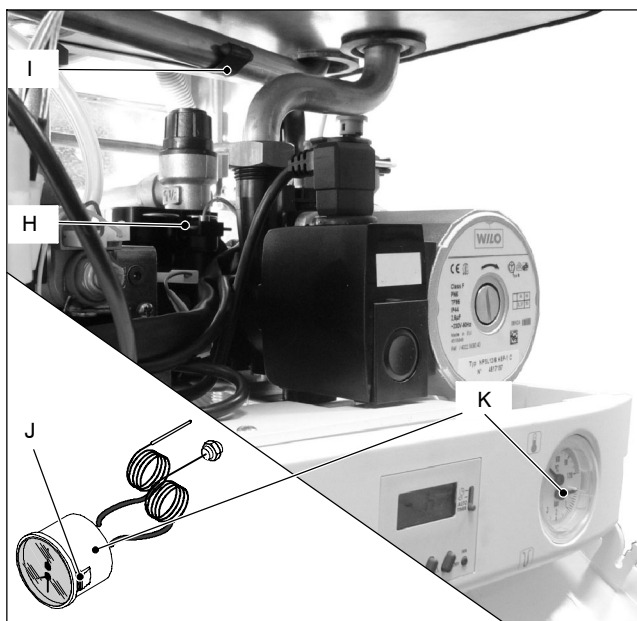

Fig. 6
- 2 Remove the fork *H* and the probe holder spring *I* (Fig. 6).